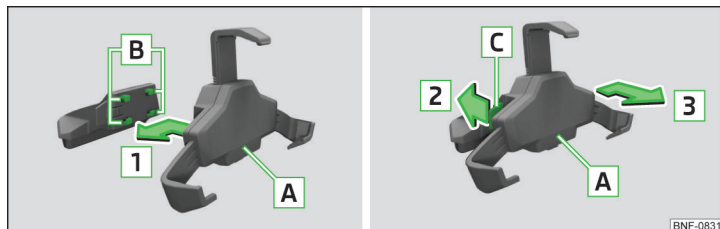

Fig. 77 Insert bracket into the adapter / remove bracket from the adapter
- to **Fixing the bracket to the adapter** insert the bracket **A** into the supports **B** in direction of arrow **1** until it clicks » Fig. 77.